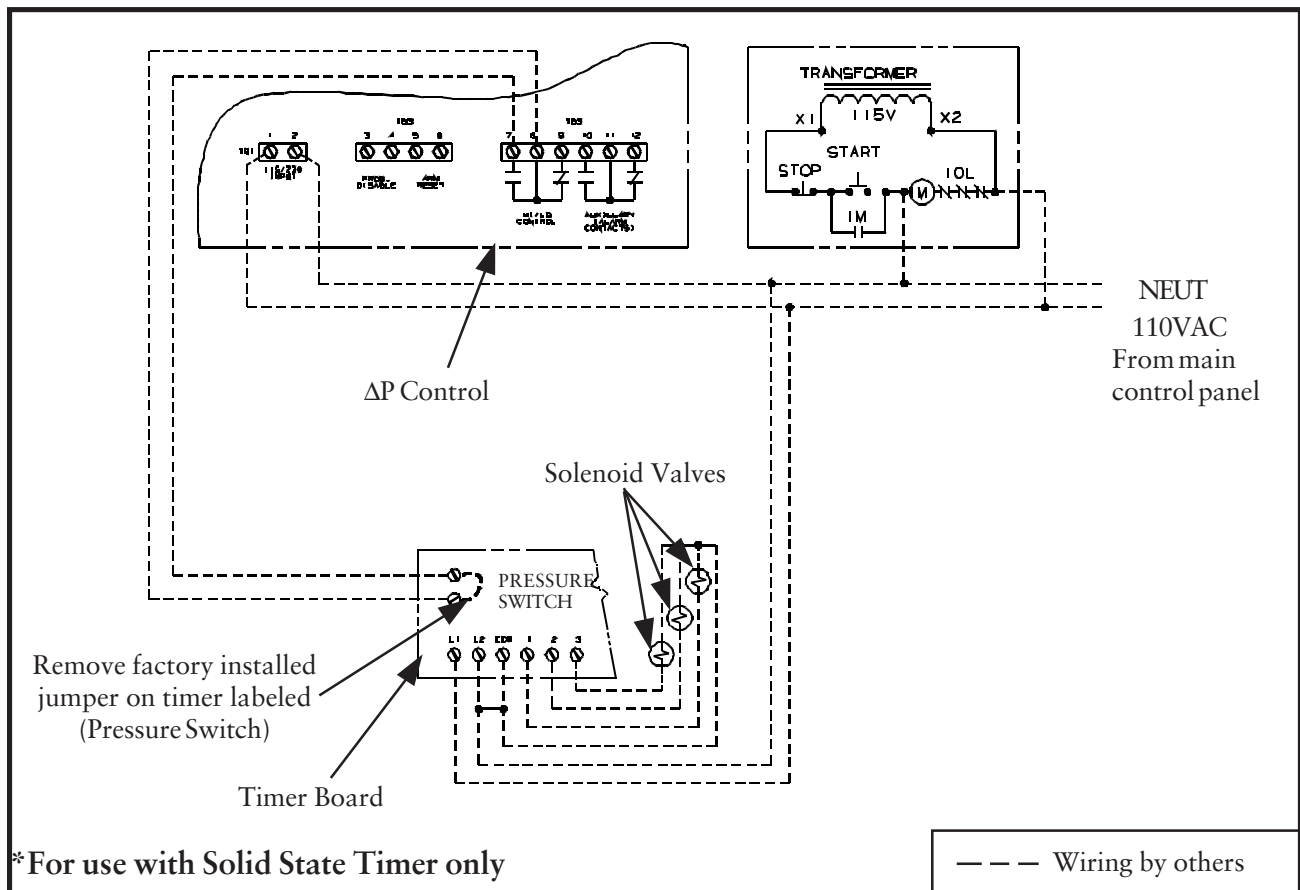

Figure 36
1. Remove the four (4) #6-32 x 5/16 long screws and plastic enclosure on the back of the Photohelic gage and set aside.
2. Add the two jumper wires (not supplied by Torit) and wire the gage using 3/4" conduit opening, as shown in Figure 36 Photohelic Gage Wiring Diagram.